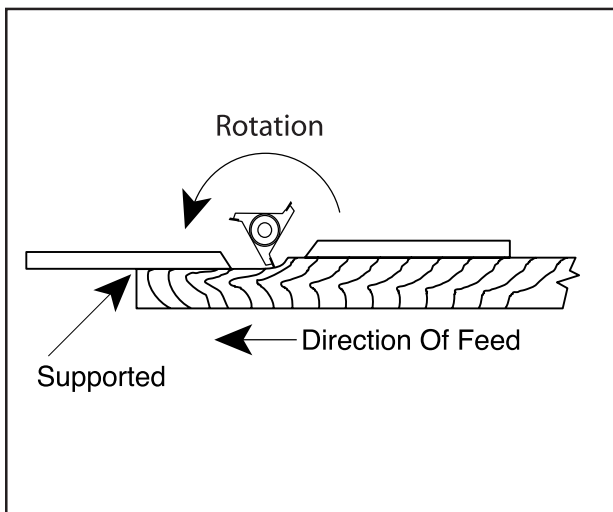

Figure 32. Fence adjusted to support workpiece.
6. Once the shaper is turned off and the cutter has come to a complete stop, adjust the outfeed fence to support the new profiled edge (**Figure 32**).